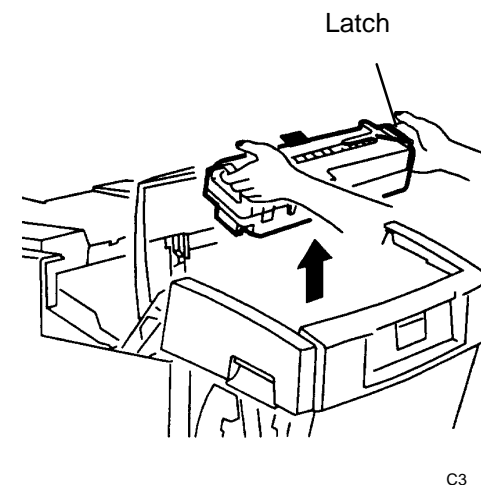

Figure 3. Removing the Fuser Module
3. (Figure 3): Release the Latch Lever on the right side of the Fuser.